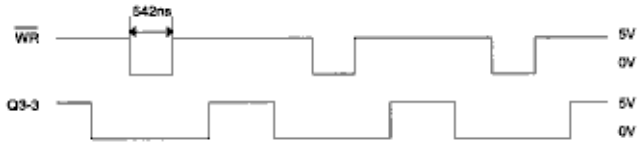

Figure C-3-5
• Yes Are \overline{WR} , and BUS signals of Q3 pin 3 as specified in Figure C-3-5?
• Yes Is 4 pin of Q6 identical to \overline{WR} signal in Figure C-3-5?